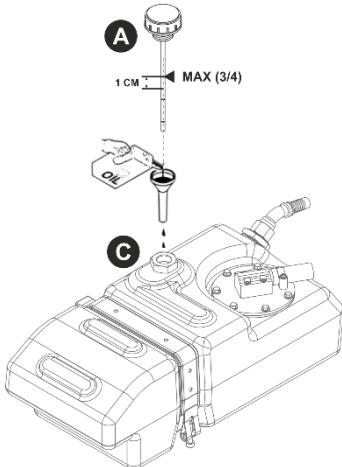

fig. 5.3 – Oil Level
The correct level is when, with the oil cold, it does not exceed the mark on the dipstick (approximately  $\frac{3}{4}$  of the tank) and does not fall more than 1 cm below the mark (see fig. 5.3).
- Unscrew the breather cap "A" on the tank (see fig. 5.3), and extract the oil using a suitable suction pump;